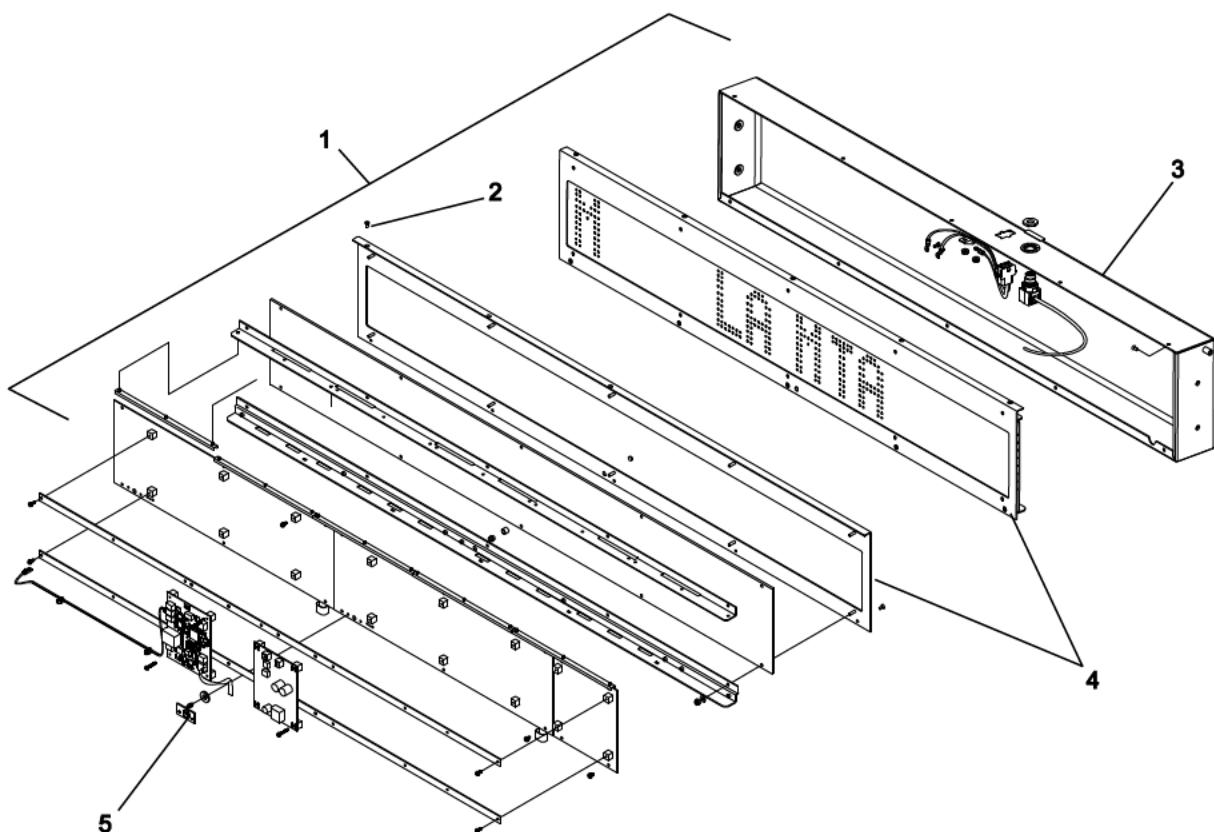

Figure 7-18: Replace Side Destination Light Sensor PCB
1. Remove side destination sign assembly (1, Figure 7-18) from its mounted location.
2. Remove ten 6-32 x 5/16 FH Phillips screws (2) that secure the housing assembly (3) to front panel assembly (4).
3. Carefully separate the housing assembly (3) from front panel assembly (4) to access electrical wiring and harnesses.
4. Tag and disconnect electrical wiring connectors from the light sensor PCB (5).
5. Remove light sensor PCB (5).
6. Install replacement light sensor PCB (5).
7. Connect electrical wiring connectors to the light sensor PCB (5).
8. Install the housing assembly (3) to the front panel assembly (4) using ten 6-32 x 5/16 FH Phillips screws (2).